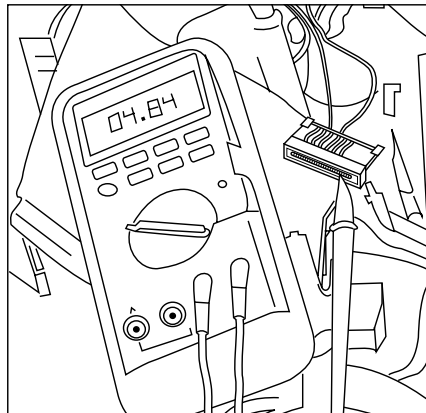
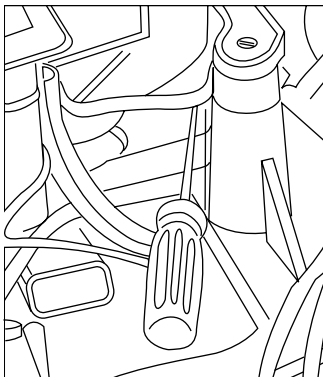

Figure 5-17. Connecting Probes
Figure 5-18. Voltage Adjustment Hole
6. Locate the keyboard connector to check for 5 volts DC. Using a DVM, connect the GND (-) probe to the screw that holds the keyboard to the chassis, and connect the POS (+) probe to the 5-volt lead on the TOP ROW of the keyboard connector, second from right (see Figure 5-17). Turn on the cash register. If the voltage is less than 5 volts, locate the voltage adjustment hole on the power supply case behind the card cage (see Figure 5-18). Using a flexible screw driver, adjust the potentiometer until the voltage is 5.0 to 5.1 volts. Turn off the register and remove the DVM.